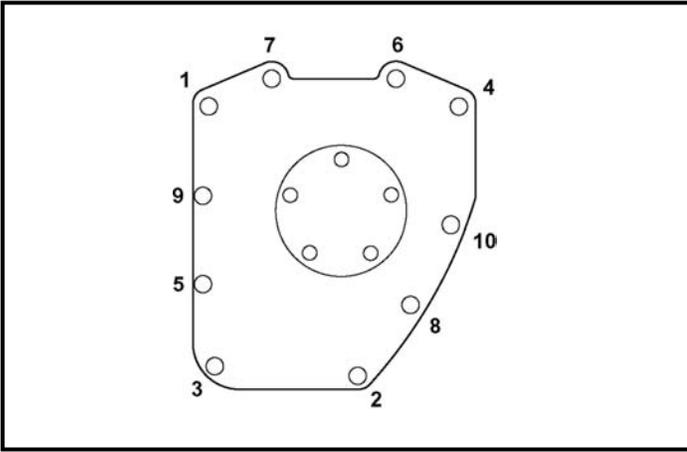

Figure 6
- P. Use a new gasket and install cam cover. Tighten cover bolts to 90-120 in-lbs. torque in sequence shown. See Figure 6.